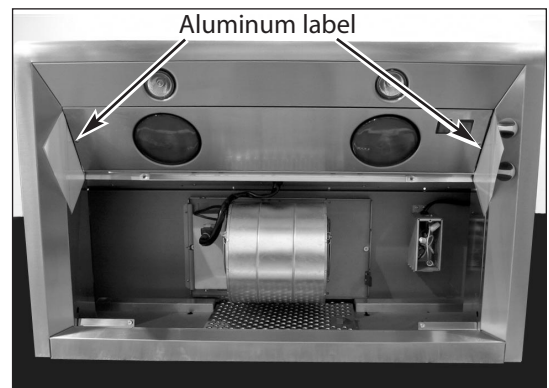

Fig. 02
1. Apply protective aluminum labels on left hand and right hand side prior to removing existing IR lamp panel (see Fig. 02).